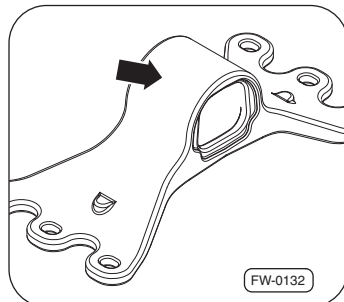

Fig. 41 · Clean mounting bracket (bearing block)
4. Dry clean the mounting bracket (bearing block) Fig. 41—arrow 1— (without cleaning agent).